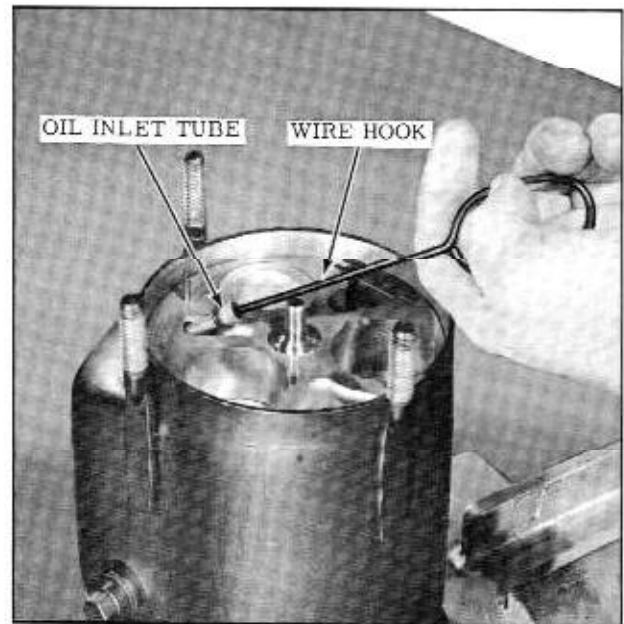

Fig. 14-42 Removing Oil Inlet Tube
8. Remove the oil inlet tube and "O" ring. Discard "O" ring. (Fig. 14-42)